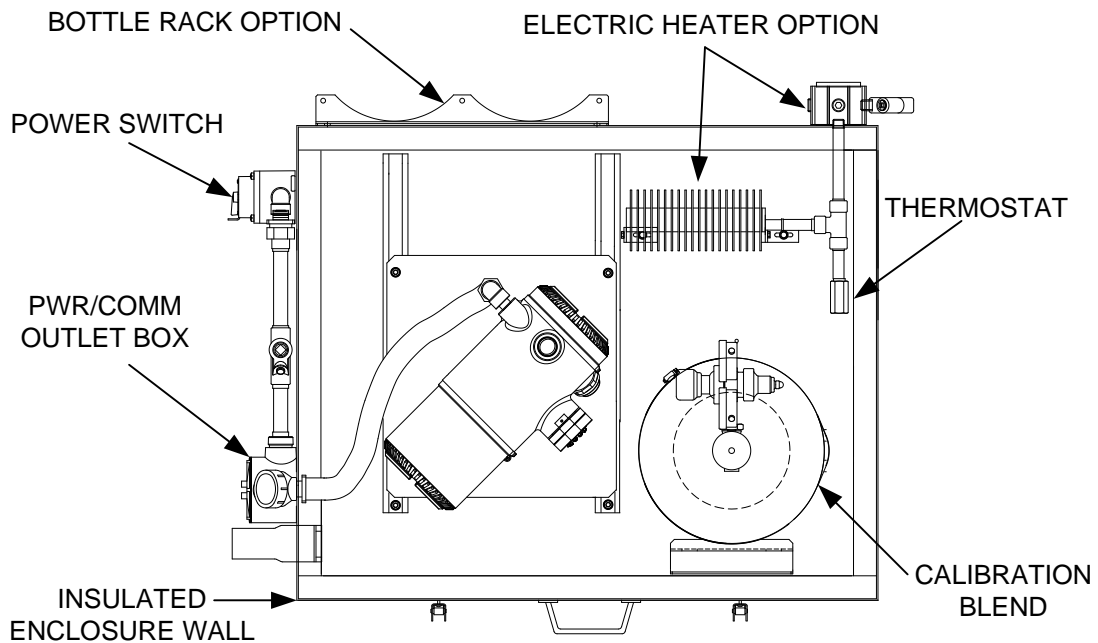
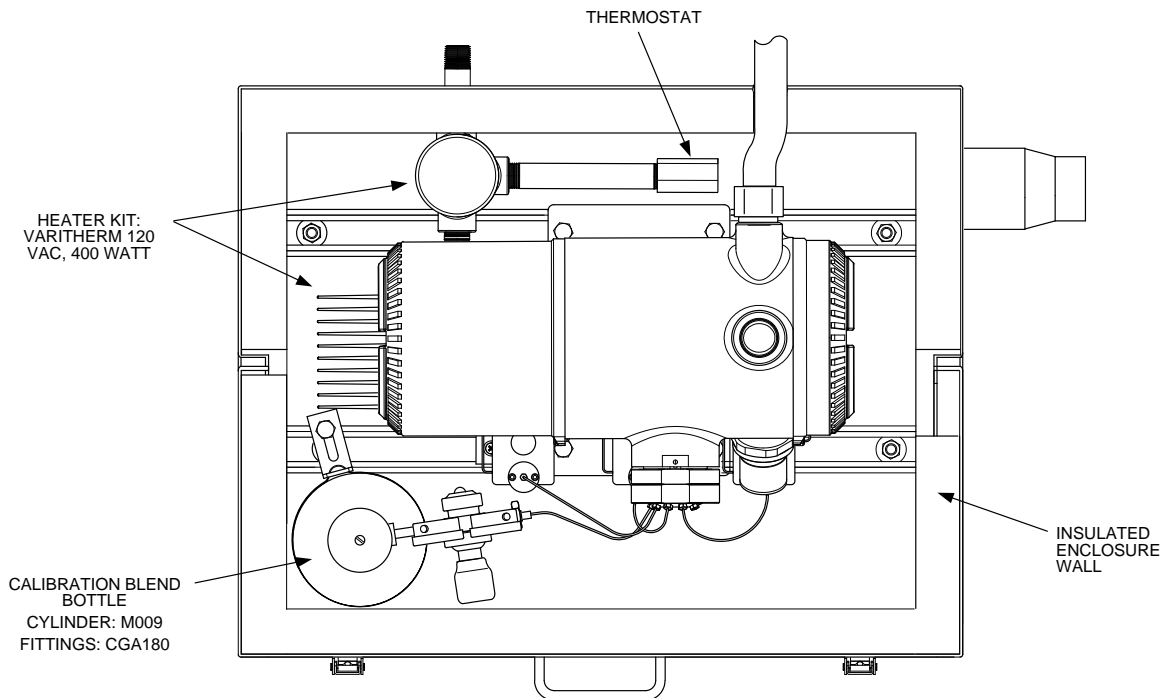

Figure 3-55 ENC82L Electric Heater Installed in Enclosure
Figure 3-56 ENC82S Electric Heater Installed in Enclosure
- Electric heater option (factory-installed, see Figure 3-55 and Figure 3-56).